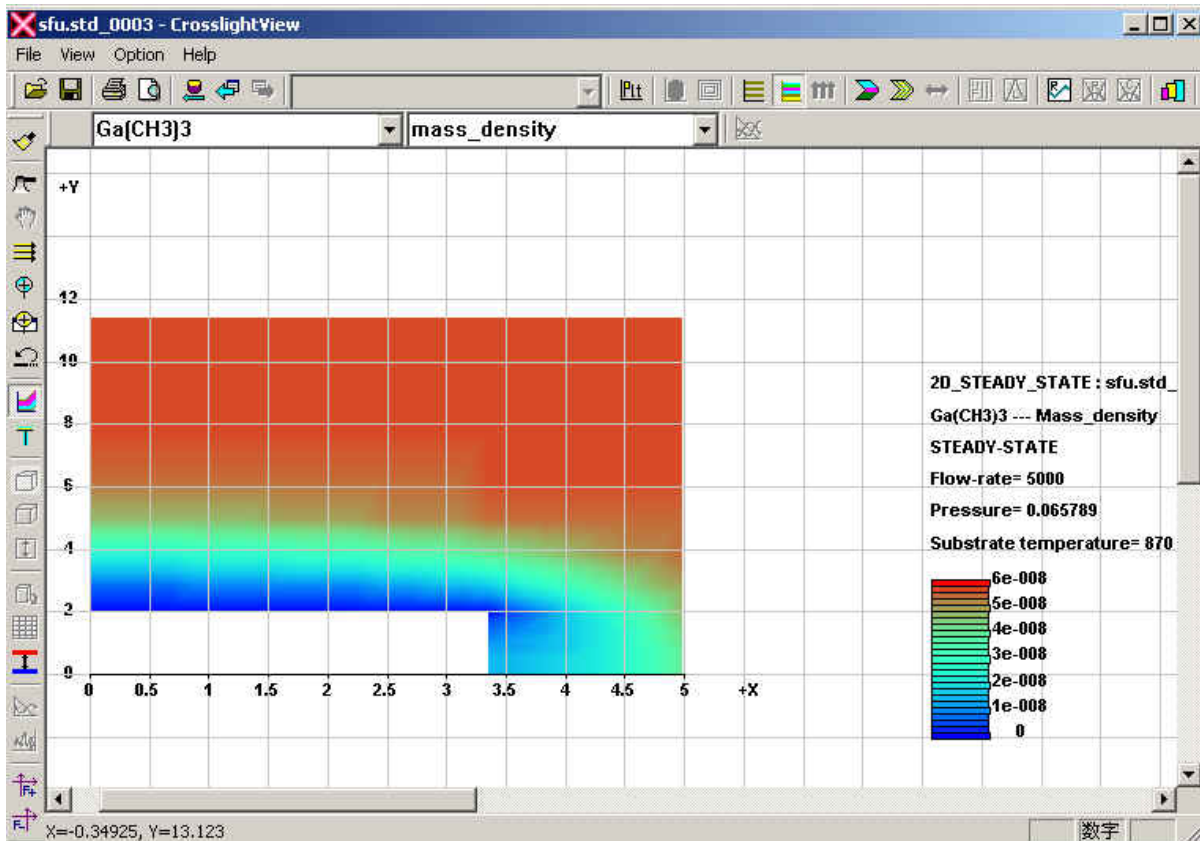

Figure 8: Distribution of TMGa density in a GaN deposition simulation.
- 8) distribution of TMGa species in a vertical reactor (with cylindrical symmetry on the left) in a GaN deposition example is given in Figure 8.